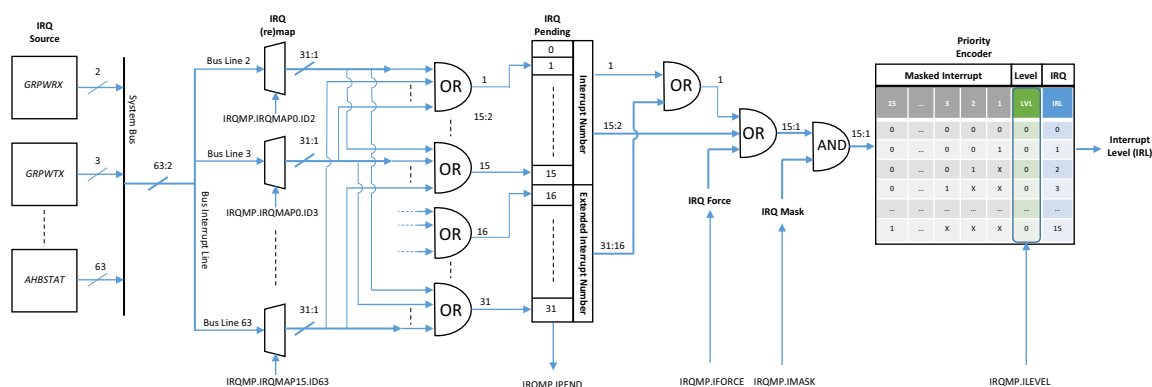

Figure 78. System and Interrupt controller block diagram
**Extended interrupt number 16 - 32** are grouped and OR:ed into **Interrupt number 1** depict in figure 78. **Extended interrupt number 16 - 32** has no level control and have no prioritization between individual interrupts.